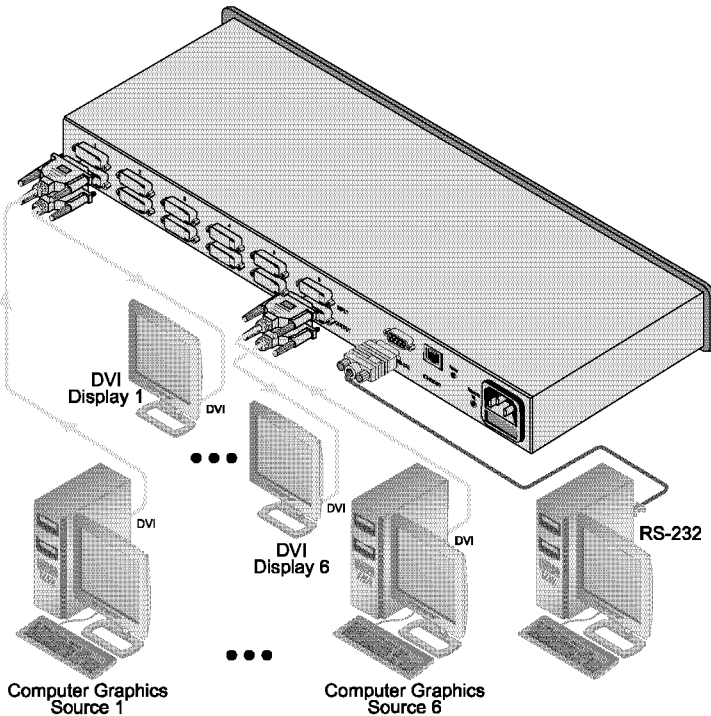

Figure 2: Connecting the VS-66HDCP 6 x 6 DVI Matrix Switcher
To connect the **VS-66HDCP**, as the example in Figure 2 illustrates, do the following¹:
4. Connect the power cord (not shown in Figure 2).